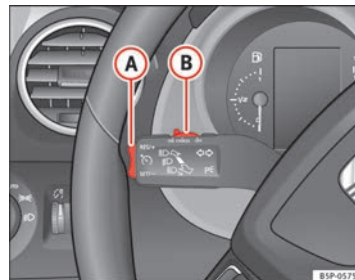

Fig. 150 Turn signal and main beam headlight lever: switch and rocker switch for the cruise control
- Press the upper part **RES/+** of the rocker switch ⇒ Fig. 150 **(A)** to increase the speed. The vehicle will continue to accelerate as long as you keep the rocker switch pressed. When you release the switch, the new speed is stored. ►
Cruise control is switched off if you reduce speed by depressing the brake pedal. You can reactivate the control by pressing once on the upper part of the rocker switch **RES/+** → Fig. 150 **(A)**.